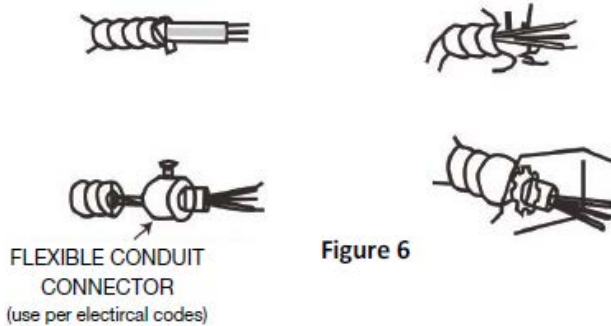

Figure 6
2. Attach flexible cable through a knock-out in the side of the heater following NEC and local codes, See **Figure 6** and **SPECIFICATIONS** for recommended wiring and circuit breakers.
NOTE: For certain applications, conduit may be required (**See Figure 6**). Check local electrical codes. If you run the wiring in conduit and wish to be able to turn the heater be sure to purchase enough flexible conduit to allow the heater to be turned.